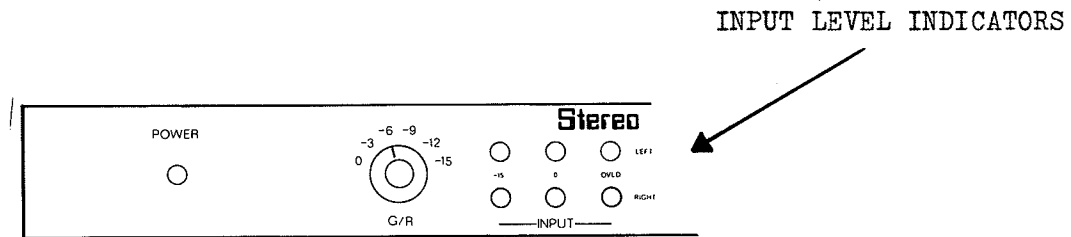

FIGURE 3-11 INPUT LEVEL INDICATORS
3.4.2 Input Level Indicators (Figure 3-11)